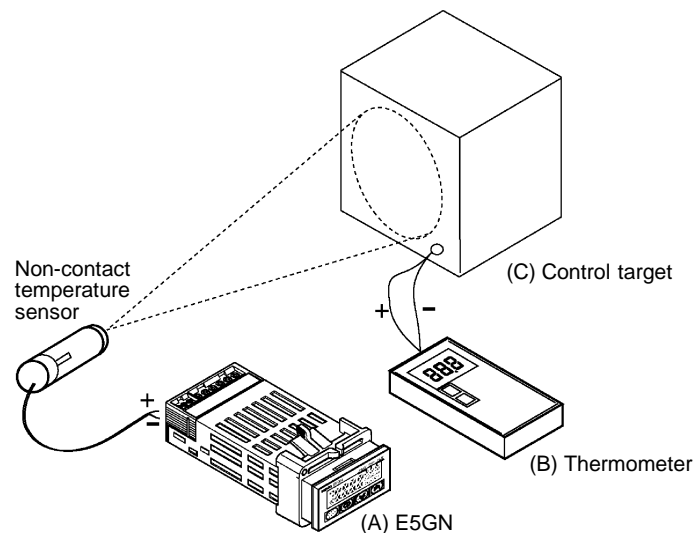

Figure 1 Configuration When Compensating a Non-contact Temperature Sensor
- (1) Set to the temperature range matching the input specifications of the non-contact temperature sensor. (ES1A is supported only in thermocouple input types on the E5GN.)
- (2) Prepare a thermometer capable of measuring the temperature of the control target as shown in Figure 1 so that 1-point shift or 2-point shift can be carried out.
- (1) In the configuration shown in Figure 1, bring the set point to near the value at which the temperature of the control target is to be controlled. Let's assume that the control target temperature (C) and the control target temperature (B) are matching.
- (2) Check the control target temperature (B) and the controller readout (A). Take the following value as the input shift value, and set the same numerical values to "105L" and "105H".